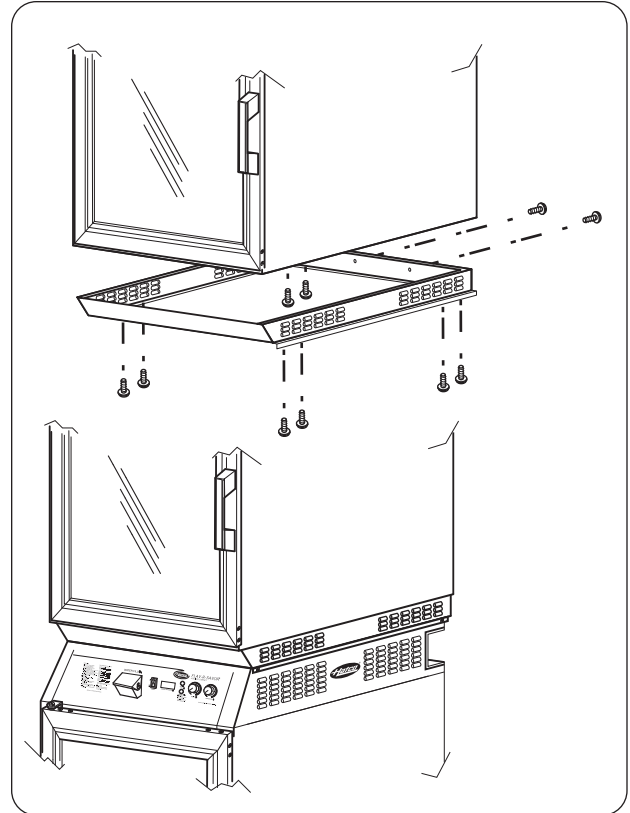

Figure 9. Stacking Kit
2. Attach stacking bracket to underside of top unit using hardware supplied. (See Figure 9.)
4. Secure two units by installing two screws on the rear of the unit through the stacking bracket and into the holes on the back of the bottom unit. (See Figure 9.)